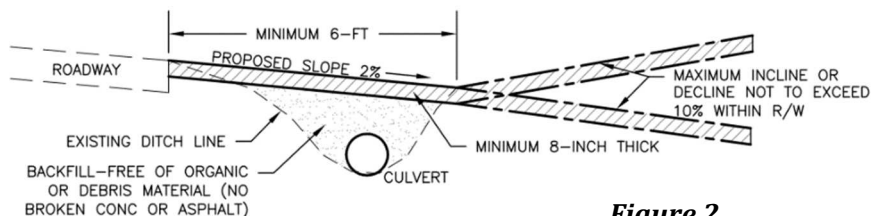

Figure 2
1. Driveway Approaches shall be a minimum 2% slope down / away from the road so that water runs away from the road and toward the ditch line, as shown in **Figure 2**.